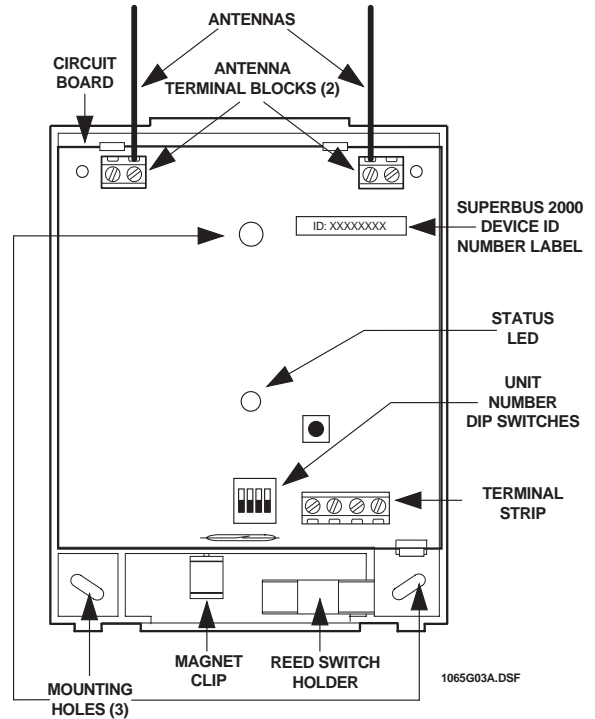

Figure 1. RF Receiver Module Components
Figure 1 shows the receiver module components and Table 1 describes them.
3. Hold the base against the mounting surface and mark the three mounting holes (Figure 1). Remember to leave at least 10 inches above the base for the antennas.
1. Loosen the **inside** terminals of the left and right antenna terminal blocks (see Figure 1).
The reed switch holder and magnet clip are located at the bottom of the back-plate (see Figure 1 for details).